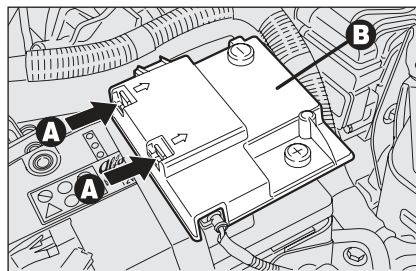

fig. 62
- ☐ operate the retaining clips **A-fig. 62** and remove the protection cover **B**;